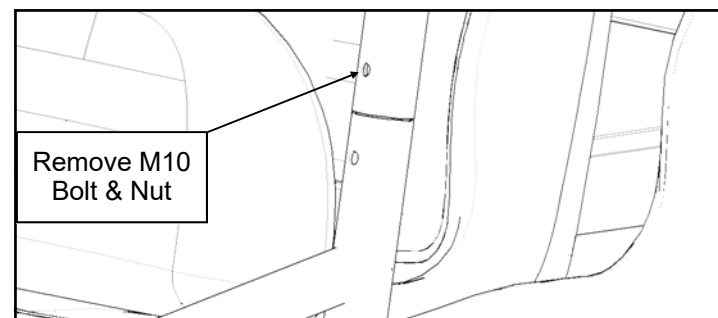

Figure 1.6: Center side ROPS bolts
- 1.6 Remove and discard the M10 bolt and nut from the center ROPS tube on either side of the Carryall. (**Figure 1.6**).